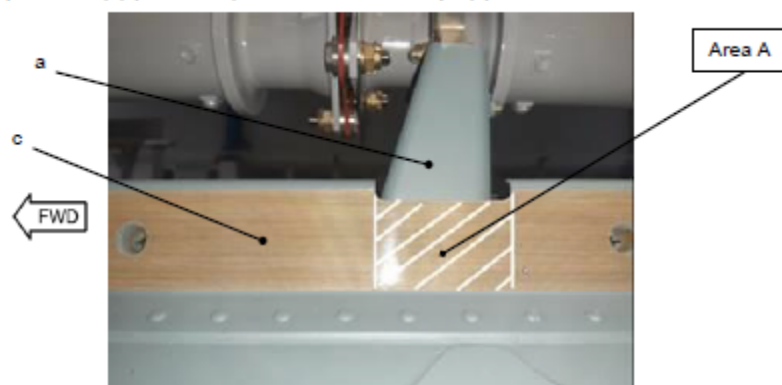

Figure 1
3.B.2.c. Removal of the Teflon tape from the tailboom (Figure 1)